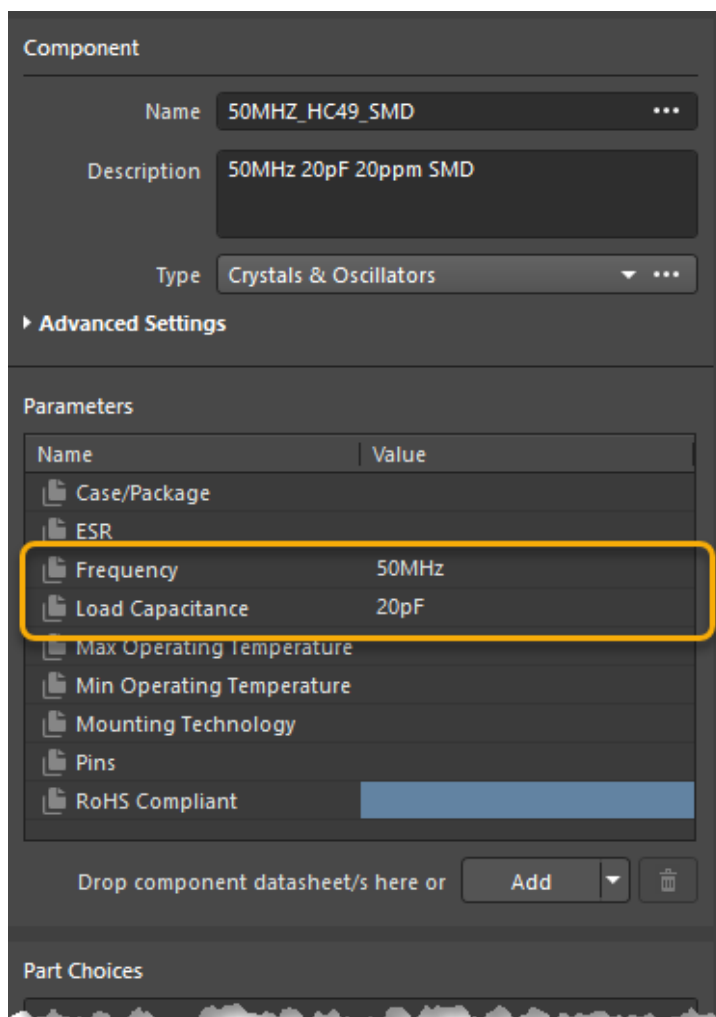

Figure 6. Component Parameters
7. In the *Parameters* section using Figure 6 as reference, add the following values: